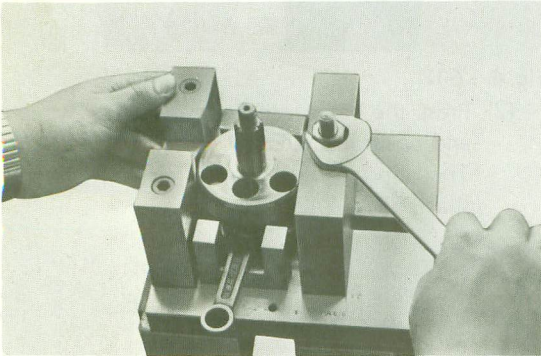

Fig. 4-17-15
- (4) Tighten the slide plate lock nut fully. (Fig. 4-17-15)